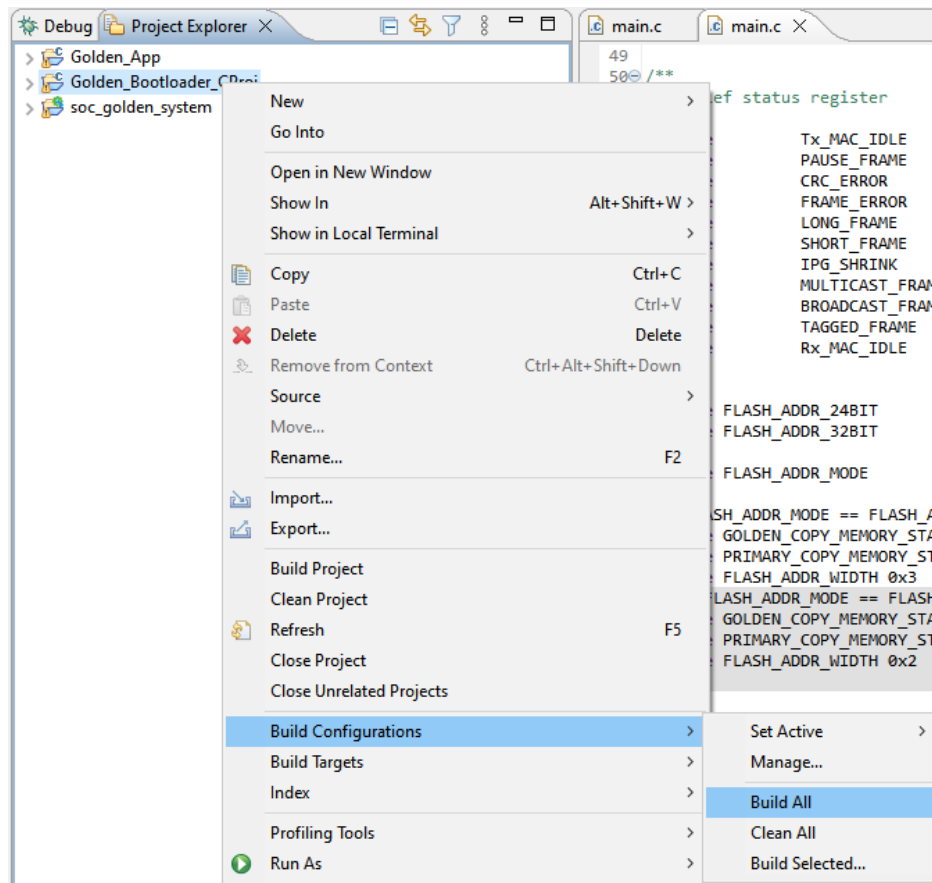

Figure A.26. Build All
3. After cleaning, right click on *Golden_Bootloader_Cproj* and select the **Build All** option as shown in Figure A.26 to build the project.